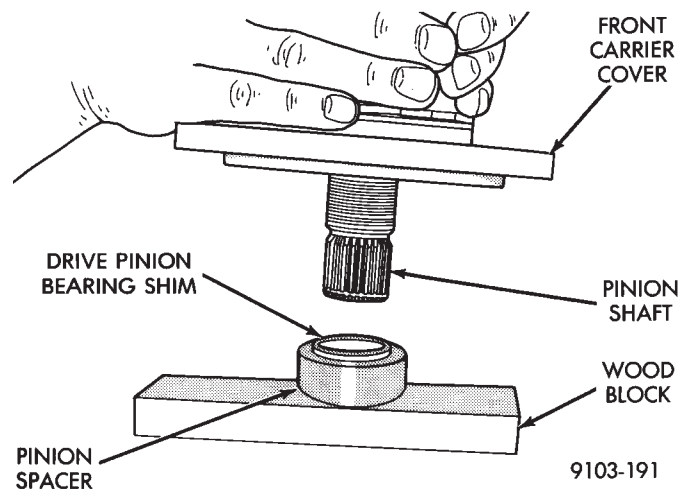

Fig. 8 Removing Drive Pinion Spacer
(9) Place a block of wood under the end of the pinion shaft. Tap end of pinion against the wood to drive the pinion spacer off of the pinion shaft (Fig. 8).